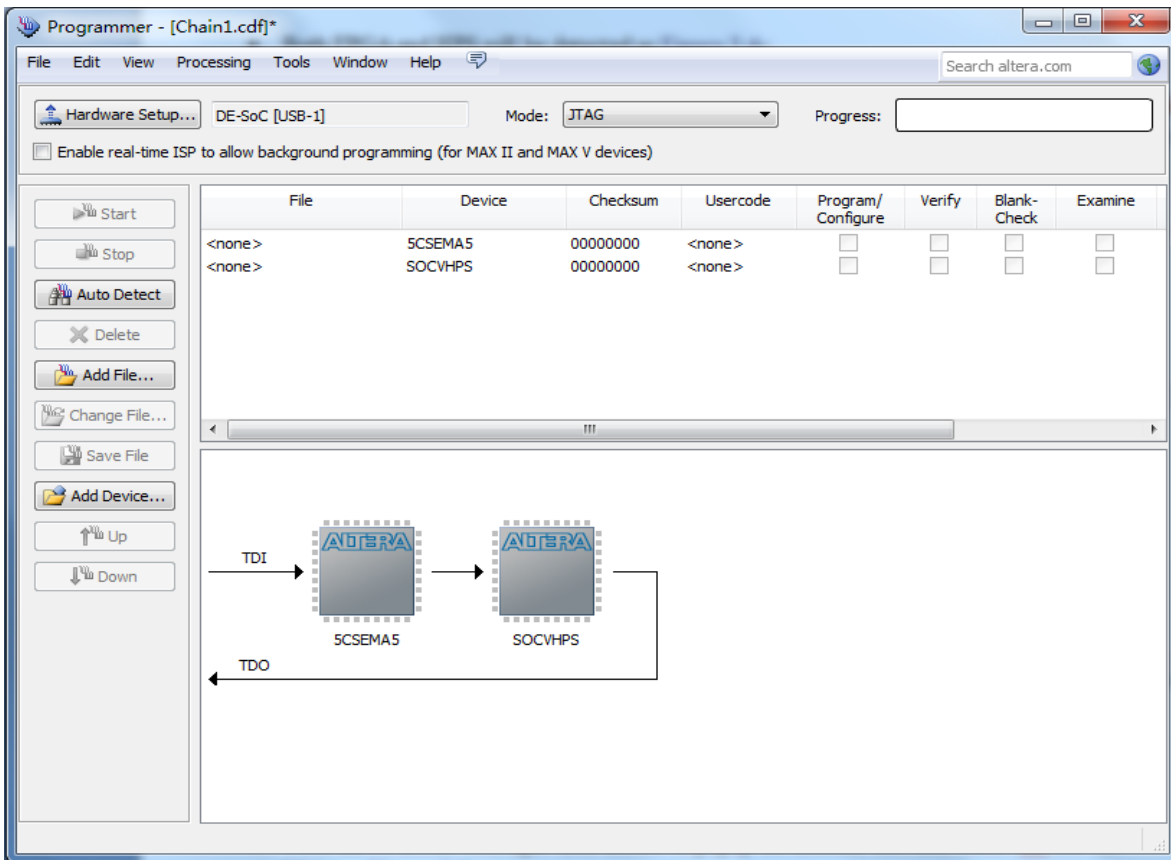

Figure 3-5 FPGA JTAG Programming Steps 3
- Both FPGA and HPS will be detected as **Figure 3-5**